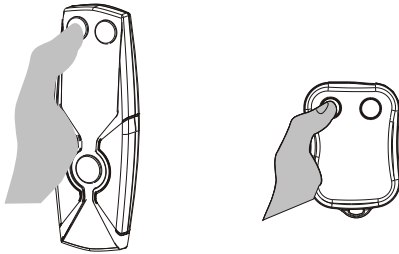

Figure 3-6
4. Use the wired hand control or optional wireless key-fob controller, to raise and retract the platform into the stowed/travel position. **See Figure 3-6.**